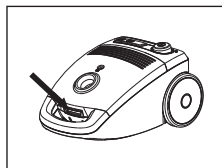

Fig. 13
2. Pull out the hose from the opening and open the vacuum cleaner by pressing the button on the bottom part of the handle and opening the cover of the vacuum cleaner (fig. 13).